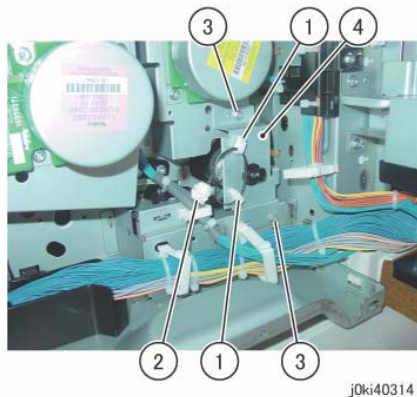

Figure 1 Remove the Takeaway Clutch
5. Remove the Takeaway Clutch. (Figure 1)